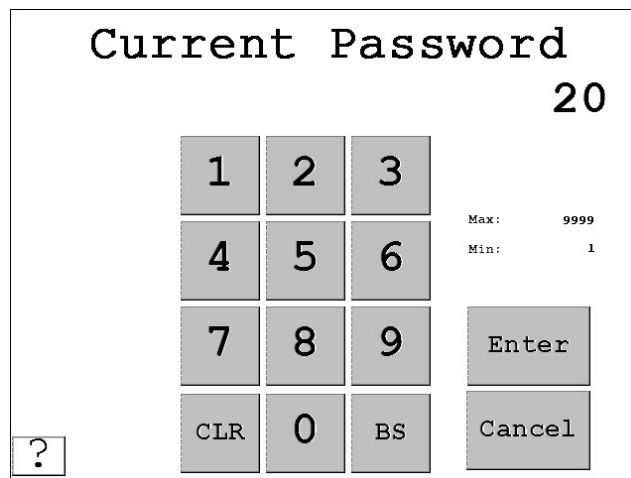

Figure 3-36. Current Password Screen
1. On the Security Settings screen, press *Change Password*. The Current Password screen displays (Figure 3-36) with the value “0” displayed in flashing reverse video above the *CLR* key. The displayed setting is always “0” to maintain password security.